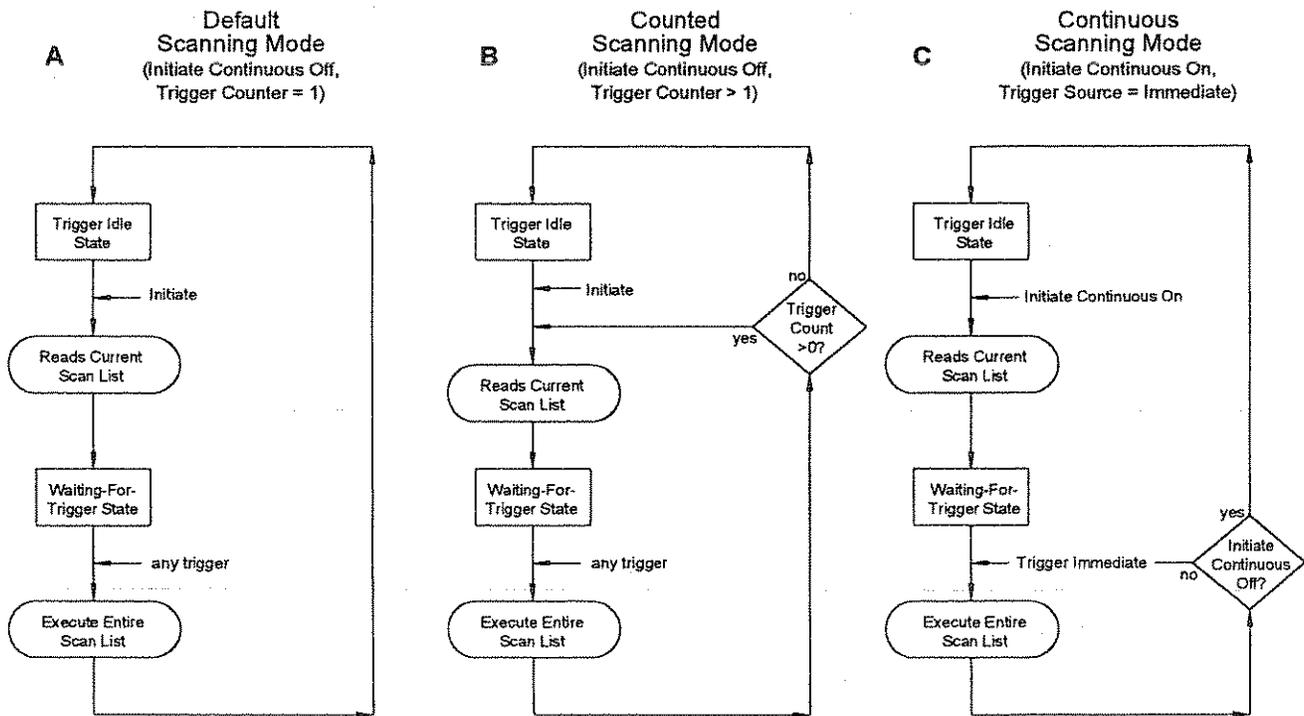

Figure 4-4 Scanning Modes
- The "Default Mode" is set when INITiate:CONTinuous is set to OFF, and the TRIGGER:COUNT is set to 1. Power-on and the *RST command also set this mode. The sequence of events for this mode is shown in Figure 4-4 A. Note that starting at the Trigger Idle State, you must execute an INITiate command to begin each scan. The sequence also shows that the Current Scan List (as set by ROUT:SCAN <scan_list>) becomes effective after the INIT command.
- The "Counted Mode" is set when INITiate:CONTinuous is set to OFF, and the TRIGGER:COUNT is set greater than 1. In this mode a single INITiate command will allow as many scans as TRIG:COUNT specifies. Note that TRIG:COUNT can be from 2 to 32768 or INFINITY. The sequence of events for this mode is shown in Figure 4-4 B. The sequence shows that the Current Scan List is set each time the module completes a scan. This allows the Current Scan List to be changed "on-the-fly" by executing the ROUTe:SCAN <scan_list> command while the module is scanning.
- The "Continuous Mode" is set when TRIGger:SOURce is set to IMMEDIATE, and INITiate:CONTinuous is set to ON. Note that executing INIT:CONT ON not only sets the continuous mode but also initiates the module. To stop at the end of the current scan, you execute the INIT:CONT OFF command. The sequence of events for this mode is shown in Figure 4-4 C. The sequence shows that the Current Scan List is not read while the module is scanning. This means that the Current Scan List can not be changed "on-the-fly". However, by specifying LISTL as the Current Scan List before INIT:CONT ON, the sequence of scan lists specified in LISTL will be executed. This mode is the fastest since the module doesn't have to read the current scan list or check for the occurrence of a trigger event.